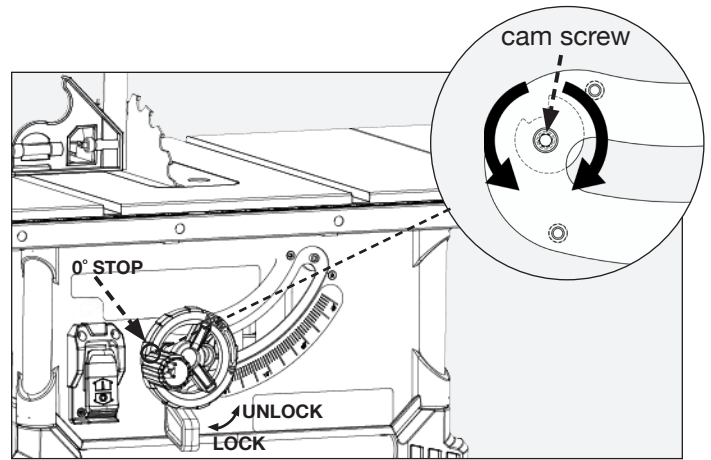

FIGURE 33
**NOTE:** For lock and unlock positions (Fig. 33).
Adjustment to the bevel stops may be required if the blade is not vertically square to the table when bevel adjustment is set at 0° or does not go to 45° when bevel is tilted to 45°. Corrective adjustments can be made by adjusting the bevel stop cams at each end of the bevel track as follows; If the blade is not vertically square to the table, you must adjust the 0° bevel stop cam (Fig. 33).
2. Loosen the cap screw that locks the 0° bevel stop cam in place (center of the cam). (As shown in Fig. 33)